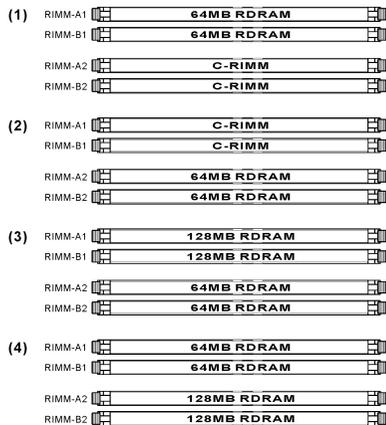

Figure 2-5. Example of memory modules configurations
Note that the memory configuration of RIMM-A1 and RIMM-A2 on Channel A must be identical with that of RIMM-B1 and RIMM-B2 on Channel B. If you are installing one pair of 64MB RDRAM, please refer to type (1) or type (2) of Figure 2-5. If you are installing one pair of 64MB and another pair of 128MB RDRAM, please refer to type (3) or type (4) of Figure 2-5.